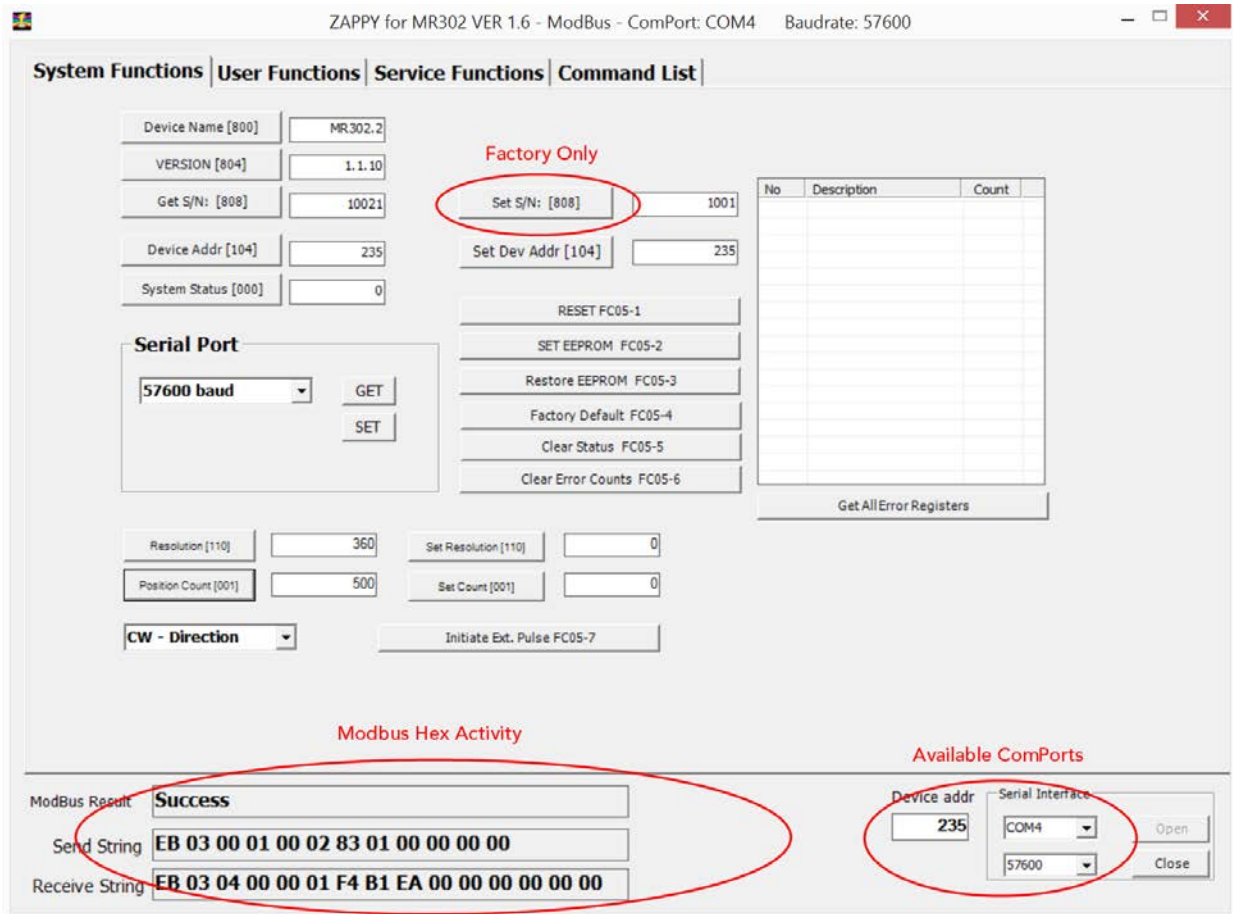

Figure 14. ZAPPY® System Functions screen
3. ZAPPY® will open up to the System Functions screen as shown in Figure 14.
Figure 14 shows example of System Functions screen.